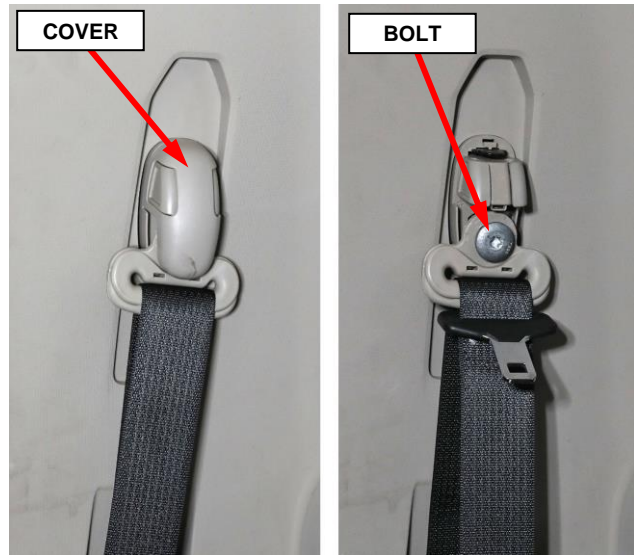

Figure 19 – Seat Belt Turning Loop
8. On the B-pillar, separate the seatbelt turning loop cover then remove the turning loop bolt (Figure 19).
54. Using a **NEW** bolt and reusing the spacer washer, install the turning loop then tighten the bolt to 40 N·m (30 ft. lbs.) (Figure 19).
55. Install the seat belt turning loop cover (Figure 19).